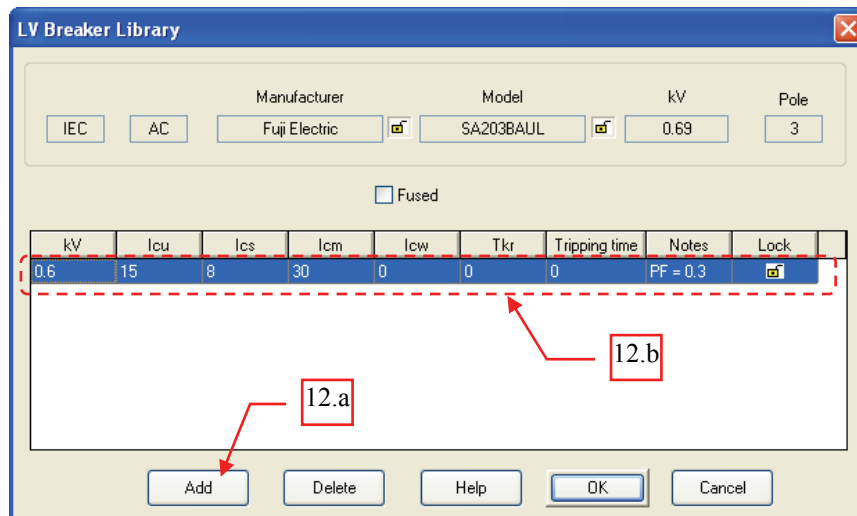

Fig. 11
12. Again, guided by the information in Table 1 on page 1, in the “LV Breaker Library” dialog box, do the following (see Fig. 11):